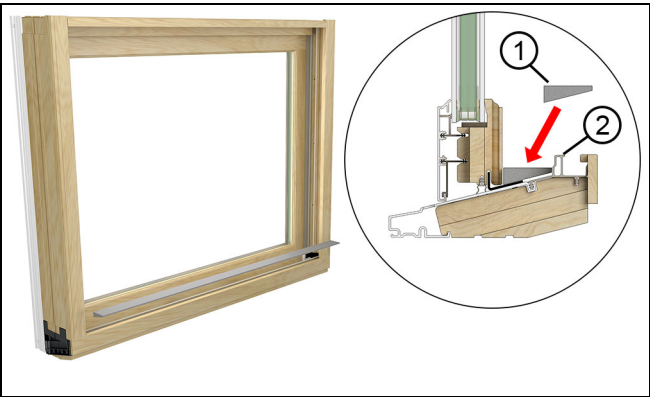

Figure 56
3. Fit the foam sill filler block between the sash and the sill thermal break, note the angle of the foam block matches the angle of the sill. See Figure 56.